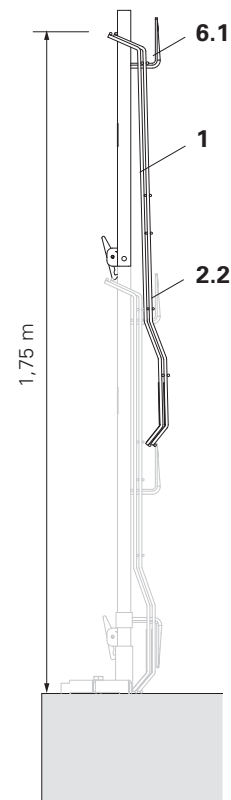

Fig. A2.06
Attach the Side Mesh Barrier PMB (1) to the top retainer (6.1) of the Post Extension PPE and retainer (2.2) of the Post PP. (Fig. A2.06)
See also Fig. A2.06 + A2.07